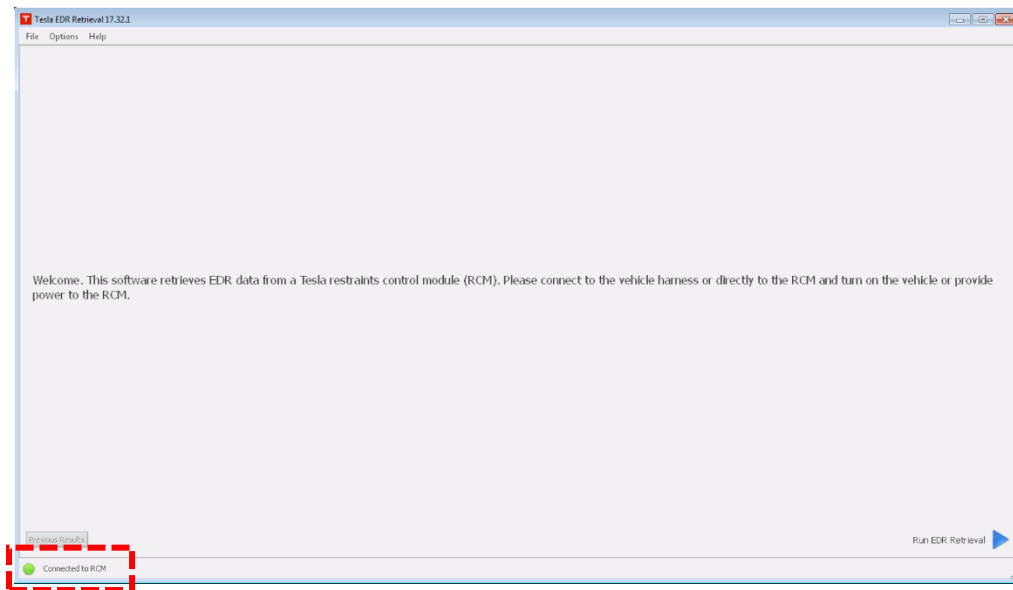

Figure 49. EDR program successful connection
- When connected properly, a green circle and the message “Connected to RCM” displays on the bottom left corner of the window (see Figure 49. EDR program successful connection).